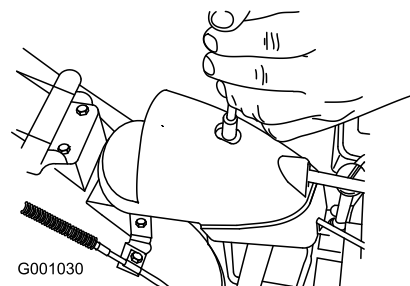

Figure 57
1. Remove the fastener on the gear cover (Figure 57), lift the front of the cover up, and slide it back and out of the way.